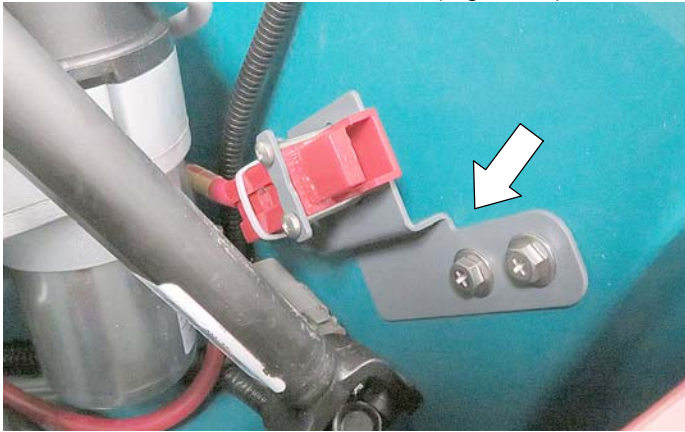

Fig. 11
13. Using existing hardware, mount the new cable bracket to machine at the same location (Figure 11).